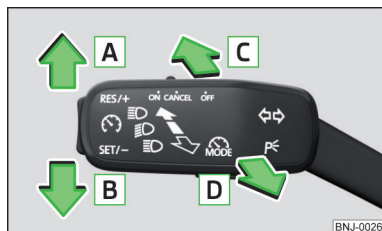

Fig. 42
- Pull the turn signal- and main beam lever (» Fig. 42 on page 62) towards the steering wheel, push down and hold in this position.
Control stalk positions » Fig. 42